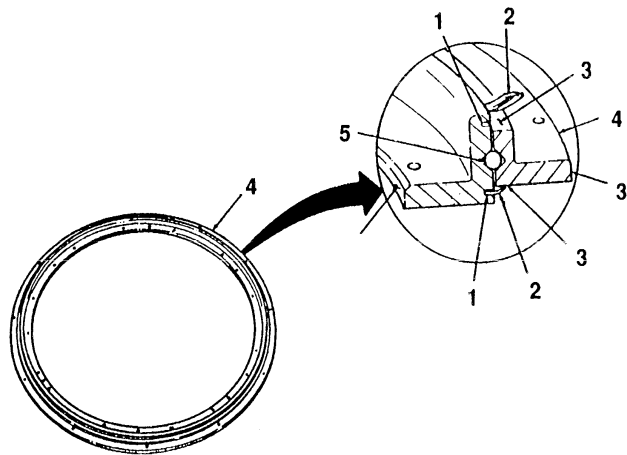

FIGURE 3-31
1. Remove two seals (2) from grooves (1) in bearing assembly (4). (see figure 3-31)
2. Remove all old sealant from grooves (1) and surface (3) of bearing assembly (4).
3. Using high pressure water nozzle or steam directed between the races, clean ball bearings (5) in bearing assembly (4) with mild detergent.
4. Using compressed air, blow out moisture from ball bearings (5) in bearing assembly (4). (see figure 3-31)